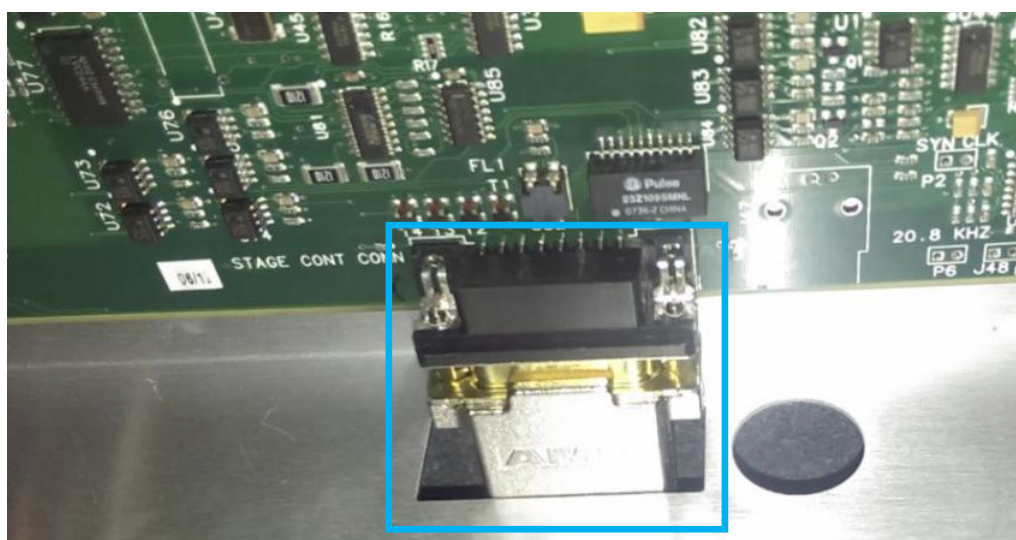

Figure 29 Trigger Board IO Cable connection
13. Connect the CABLE, TRIGGER IO, DBN 15 (P/N, 4XASC-A039) cable into Trigger Board as Figure 29